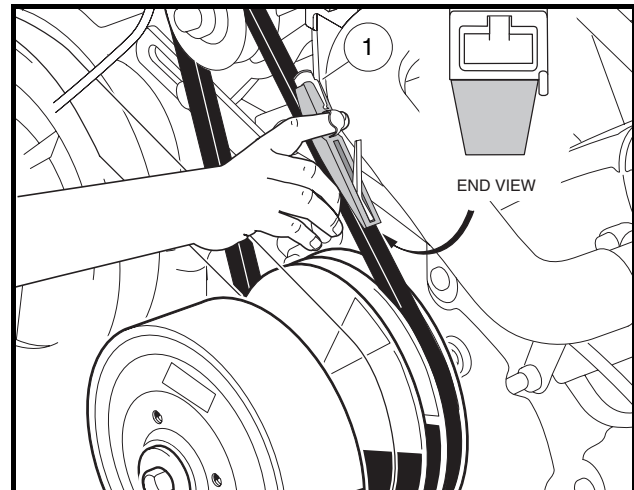

Figure 12-14 Belt Tension Gauge
7. While holding the pry bar, measure the belt tension using a Kriket® gauge (1) (available at NAPA® Auto Parts stores), or equivalent. Proper tension for a new starter/generator belt should be 75 ft-lb (101.7 N·m) or 45 ft-lb (61 N·m) for an existing belt (**Figure 12-14, Page 12-11**).